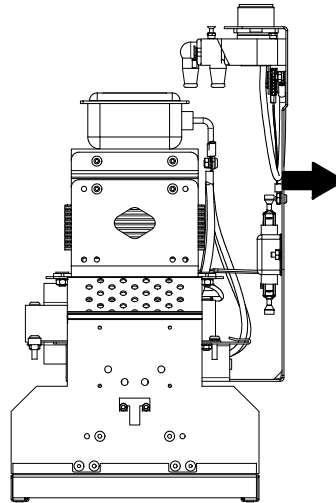

Figure 6-17 Removing the Transformer Bracket (External Blower Version Shown)
5. See Figure 6-17. Pull the the transformer bracket from the waveguide assembly far enough out to access the wiring connections.